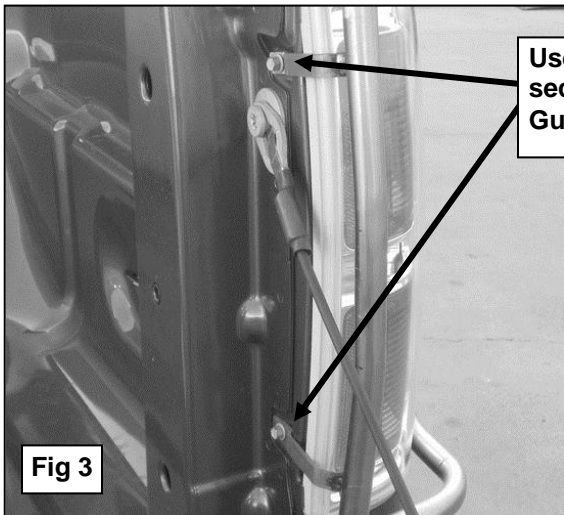

Fig 3
6. Secure the Taillight Guard to the vehicle using the two factory hex bolts removed in Step 3, **(Figure 3)**. Do not tighten at this time.